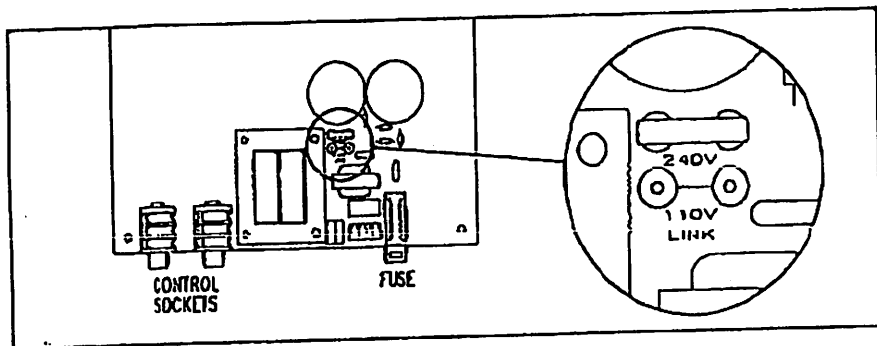

Fig 2. Mains voltage selection - Strobeflower
| Fig 2 | Mains voltage selection - Strobeflower | 5 |
3. Located next to the fuseholder on the circuit board is a single red plastic link as shown in Fig 2. This is removable and may be installed in either of two positions. These positions are clearly labelled on the circuit board as 120 volts and 240 volts. The link should be installed in the appropriate position to suit the mains voltage being used. Under no circumstances should the unit be operated with the link removed.